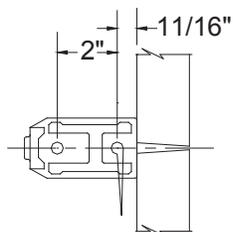

Fig. 2
- Step 2** USE THE BOTTOM FITTING AS A TEMPLATE AND PLACE IT ON THE FLOOR AGAINST THE DOORS LINING UP CENTERLINES AS SHOWN IN FIG. 2. MARK AND DRILL (2) 3/8" DIA. HOLES 2 1/2" IN DEPTH. INSERT (2) 3/8" STEEL STUD ANCHORS.
Step 2 USE THE BOTTOM FITTING AS A TEMPLATE AND PLACE IT ON THE FLOOR AGAINST THE DOORS LINING UP CENTERLINES AS SHOWN IN FIG. 2. MARK AND DRILL (2) 3/8" DIA. HOLES 2 1/2" IN DEPTH. INSERT (2) 3/8" x 3" STEEL STUD ANCHORS.